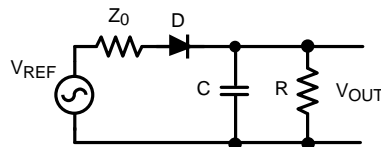

Figure 43. Diode Detector
A peak detector usually has a linear response. An example of this is a diode detector (Figure 43). The diode rectifies the RF input voltage and subsequently the RC filter determines the averaging (holding) time. The selection of the holding time configures the diode detector for its particular application. For envelope tracking a relatively small RC time constant is chosen, such that the output voltage tracks the envelope nicely. A configuration with a relatively large time constant can be used for supply regulation of the power amplifier (PA). Controlling the supply voltage of the PA can reduce power consumption significantly. The optimal mode of operation is to set the supply voltage such that it is just above the maximum output voltage of the PA. A diode detector with relative large RC time constant measures this maximum (peak) voltage.